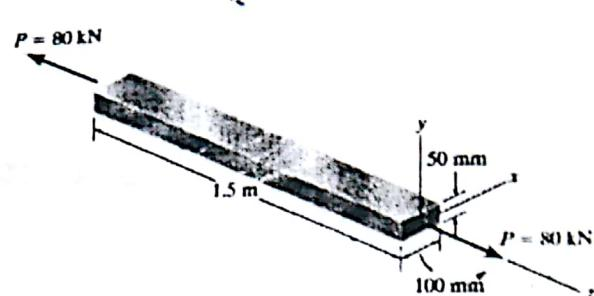

Fig. 6
6. A bar made of A-36 steel has the dimensions shown in Fig. 6. If an axial force of  $P = 80 \text{ kN}$  is applied to the bar, determine the change in its length and the change in the dimensions of its cross section after applying the load. The material behaves elastically. [ $\delta_x = 120 \mu\text{m}$ ;  $\delta_y = -2.56 \mu\text{m}$ ;  $\delta_z = -1.28 \mu\text{m}$ ]  $E = 200 \text{ GPa}$